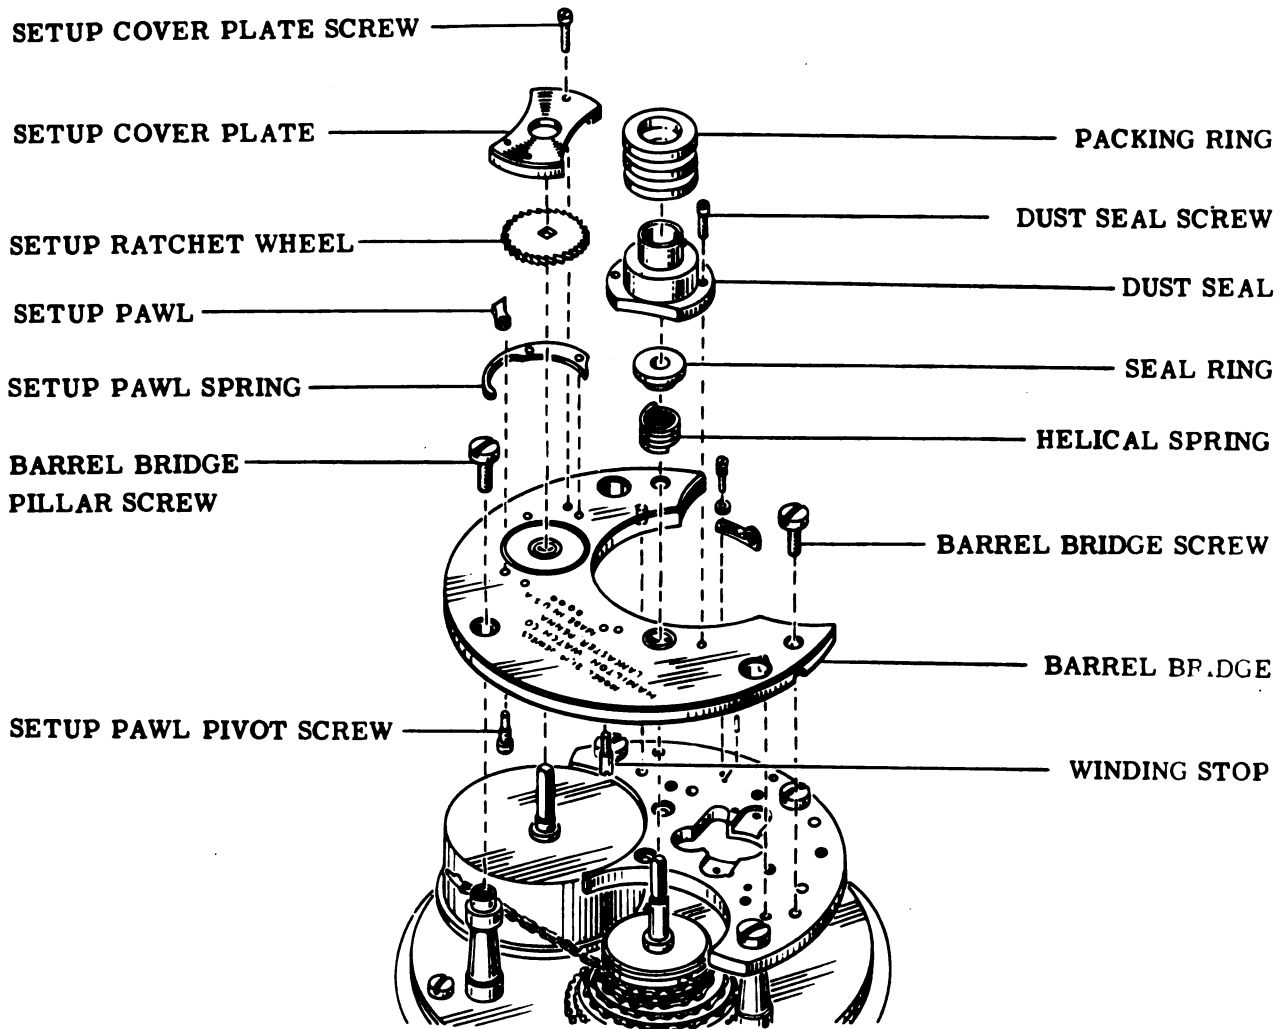
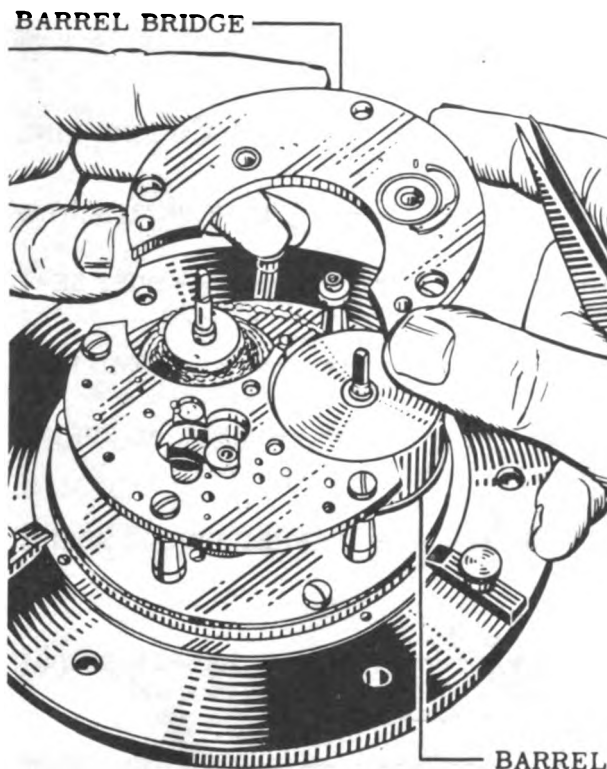

Figure 24
Figure 25
27. Remove two setup coverplate screws. Remove plate. See Fig. 24.
28. Remove setup pawl and setup ratchet wheel. See Fig. 24.
29. Remove two dust-seal screws. Remove dust seal and from it take off the packing ring unit. See Fig. 24.
30. Remove seal ring and its helical seal ring spring. See Fig. 24.
31. Using special shell screwdriver (Tool No. 96), remove three screws fastening the barrel bridge. See Fig. 24. Remove barrel bridge. See Fig. 25.
32. Push off setup pawl spring, shown in Fig. 24, by pressure on steady pins from the lower side of barrel bridge. Remove setup pawl pivot screw. Unscrew winding stop (left hand thread). See Fig. 24.
33. Lift out mainspring barrel, indicated in Fig. 25 on the next page.